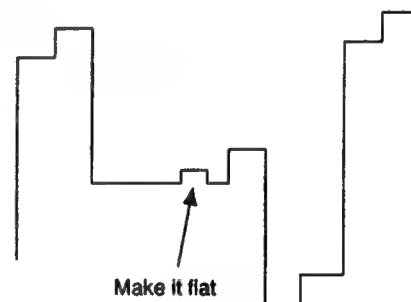

Fig. 5-17
5. Adjust **PHASE NTSC 358 NOR** so that the burst section of the output waveform will be straight. (Fig. 5-17)
2. Make adjustment in the same way as 10-1. shown above by means of **PHASE NTSC 443 ACC OFF**. (Fig. 5-17)